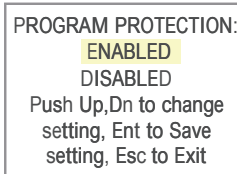
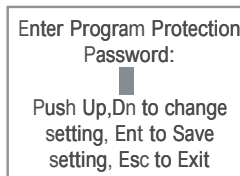

Figure 10: Program Protection Screen
Figure 11: Program Protection Password Screen
If the PP password is set to any value more than Zero, the firmware will prompt with “Enter Program Protection Password” (see **Figure 11**).
In order to get access to “Change Program Protection (PP) Password” menu, Program Protection must be disabled. If PP password is set to Zero (Disabled), entering PP Password is not required and PP can be disabled from “Program Protection” menu (see **Figure 10**). If PP Password is set to any value more than Zero, the firmware will prompt with “Enter Program Protection Password” (see **Figure 11**). The user must enter a program protection code (up to 3 digits). If the PP password is lost or forgotten, contact Dwyer.